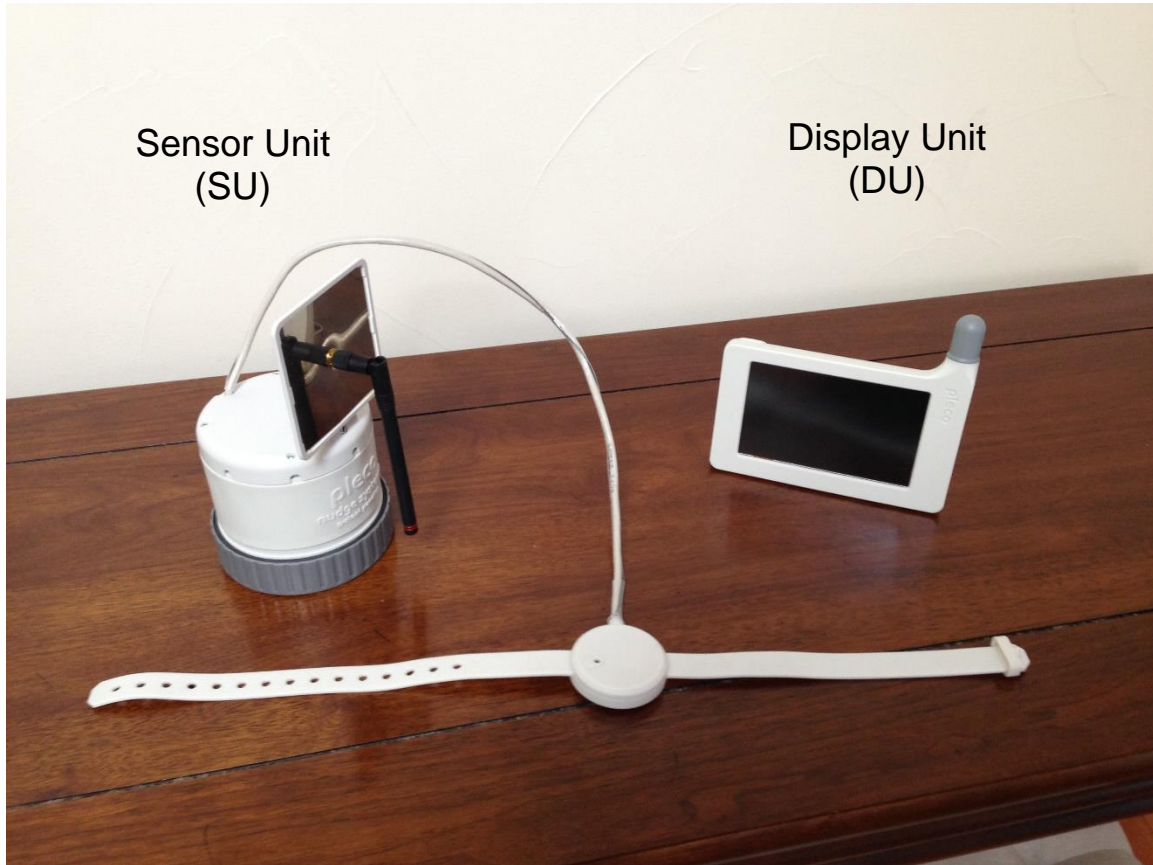

Fig. 1: Pleco product: Display Unit (DU) and Sensor Unit (SU)
The Pleco product consists of a Display Unit (DU) and a Sensor Unit (SU) as shown in Figure 1. Both units are required for operation.